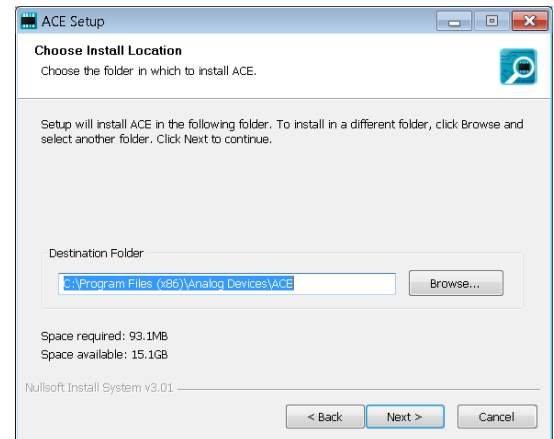

Figure 10. Choose Install Location
6. Click **Browse...** to choose the install location and then click **Next >** (see Figure 10).